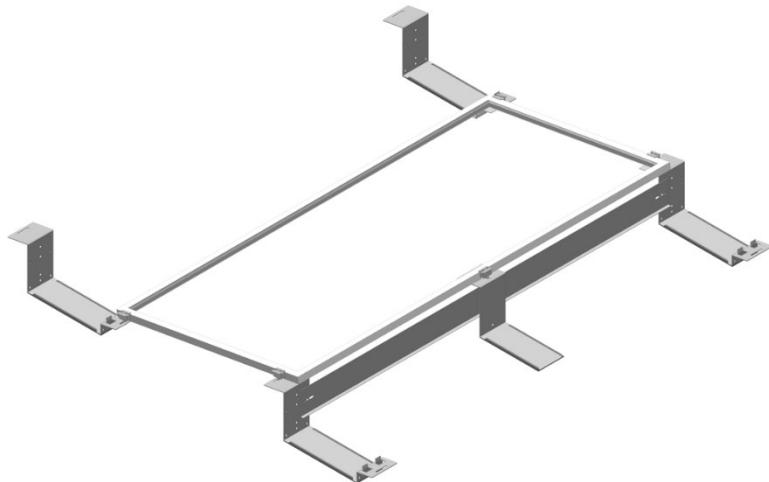

Fig. C1 – EkonoRack with High Uplift Solution Support
- 1 Center the HUS support (HUSxx-01B) on the northside of the panel between two supports (Exx-01B). Move the support into place until it is in contact with the module (see Fig. C1). There may be a small gap between the support and panel—this is not a cause for concern. If using Inverted supports (HUSxx-01B-INN) repeat the same process.